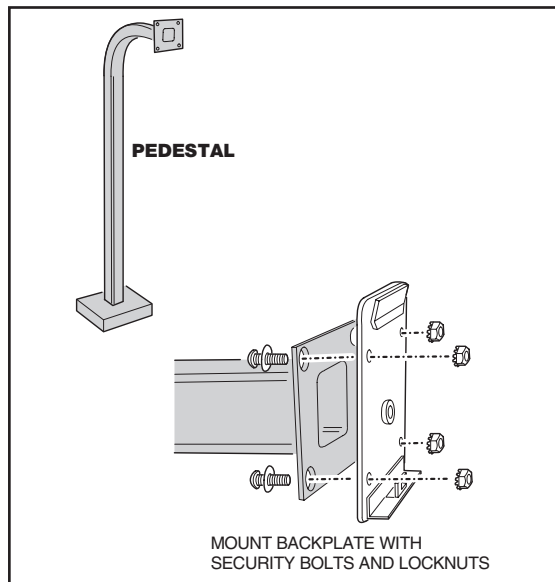

Figure 3. Pedestal Mounting Keypad Backplate
- ❑ Use four security bolts and locking nuts to secure the keypad's backplate to the pedestal (see Figure 3).